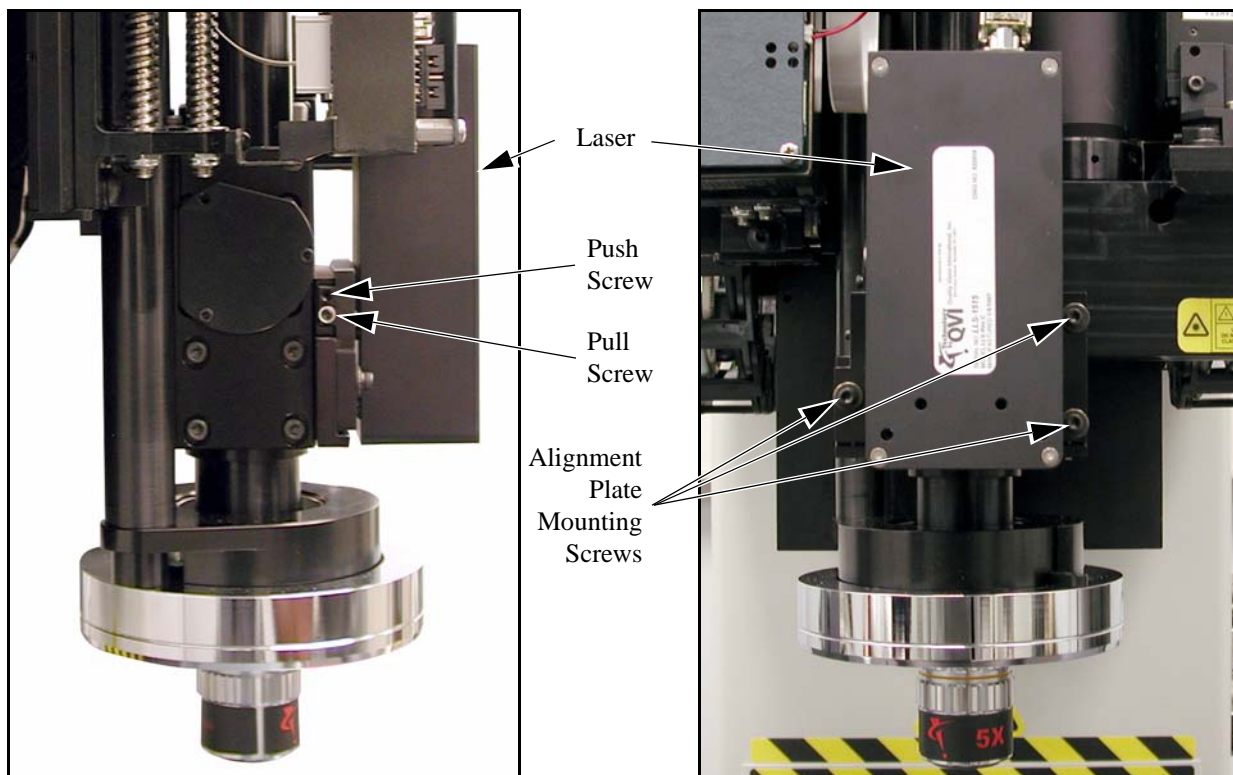

Figure B-12 Location of the Laser Alignment Plate Push/Pull Screws
29. Use a 2.5 mm Allen wrench to **loosen** the three laser alignment plate mounting screws (see Figure B-12).